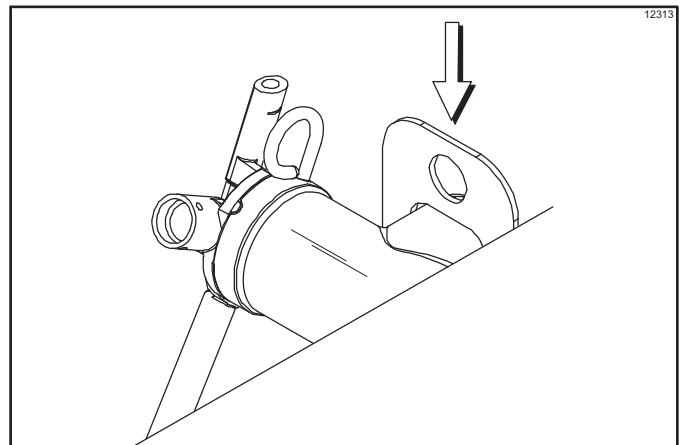

Figure 6-35
4. Install the pump assembly at the rear of the mix hopper. To position the pump on the drive hub, align the drive hole in the piston with the drive crank of the drive shaft. Secure the pump in place by slipping the pump clip over the collar of the pump, making sure the clip fits into the grooves in the collar. (See Figure 6-35.)